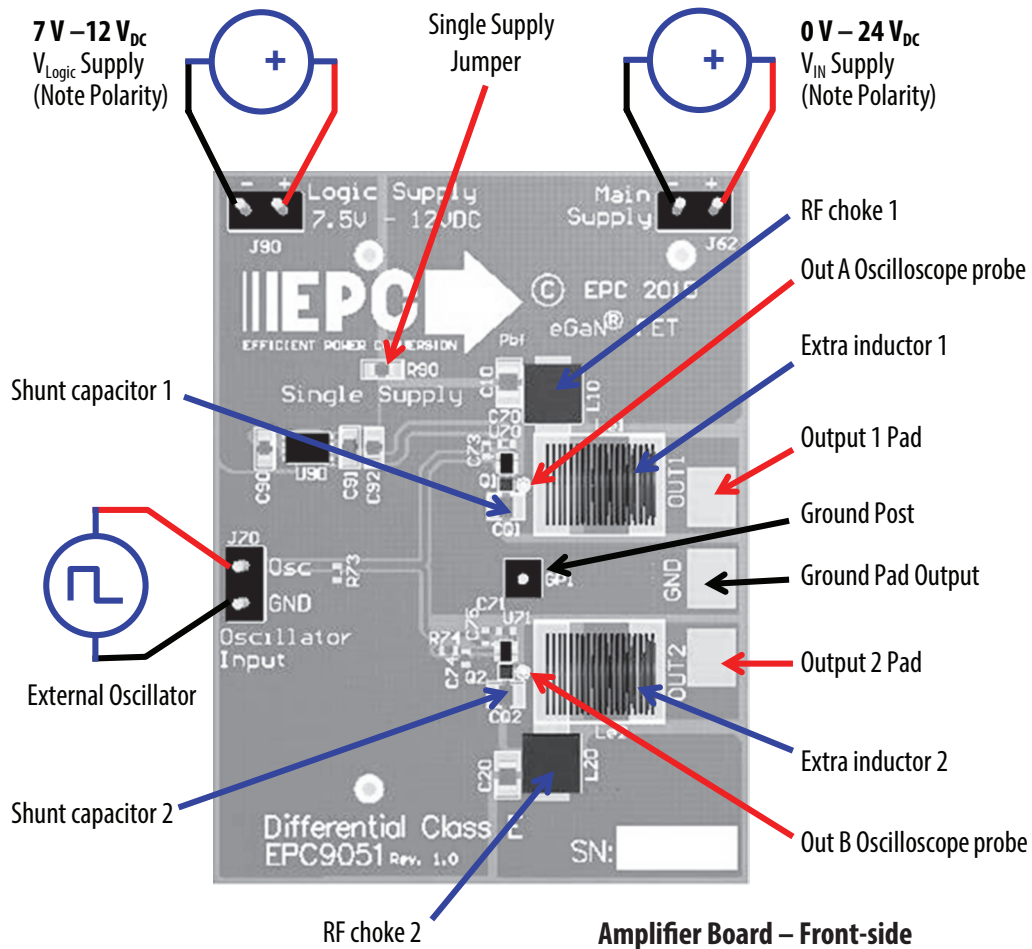
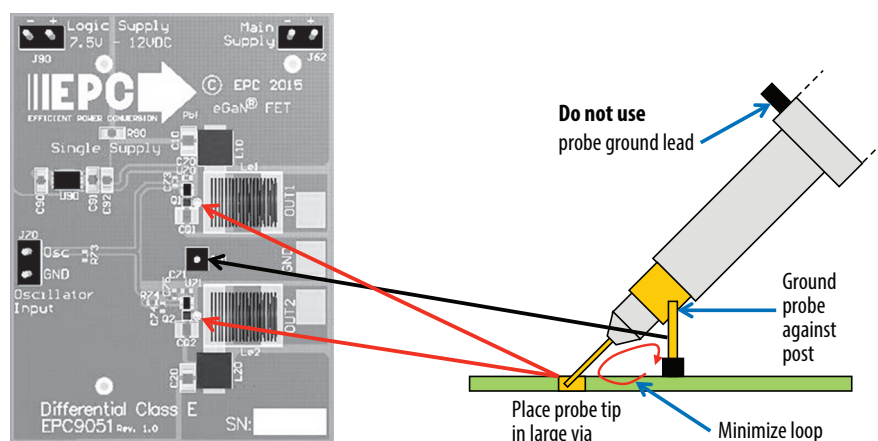

Figure 5: Proper connection and measurement setup for the amplifier board.
Figure 6: Proper measurement of the drain voltage using the hole and ground post.
2. With power **off**, connect the **main** input power supply bus to J62 as shown in figure 5. Note the polarity of the supply connector. Set the voltage to 0 V.
3. With power **off**, connect the **logic** input power supply bus to J90 as shown in figure 5. Note the polarity of the supply connector. Set the voltage to between 7 V and 12 V.
NOTE. When measuring the high frequency content switch-node, care must be taken to avoid long ground leads. An oscilloscope probe connection (preferred method) has been built into the board to simplify the measurement of the Drain-Source Voltage (shown in figure 5 and figure 6). The choice of oscilloscope probe needs to consider tip capacitance where this will appear in parallel with the shunt capacitance thereby altering the operating point of the amplifier.